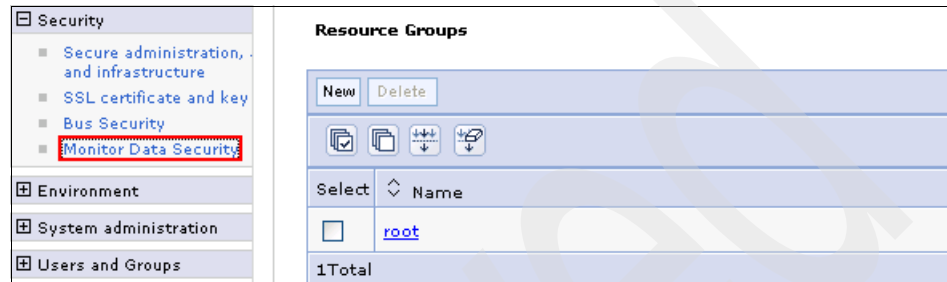

Figure 3-74 Navigating to Monitor Data Security
1. In the WebSphere Business Monitor administrative console (Figure 3-74), select **Security** → **Monitor Data Security**. In the right pane, click the **root** link.